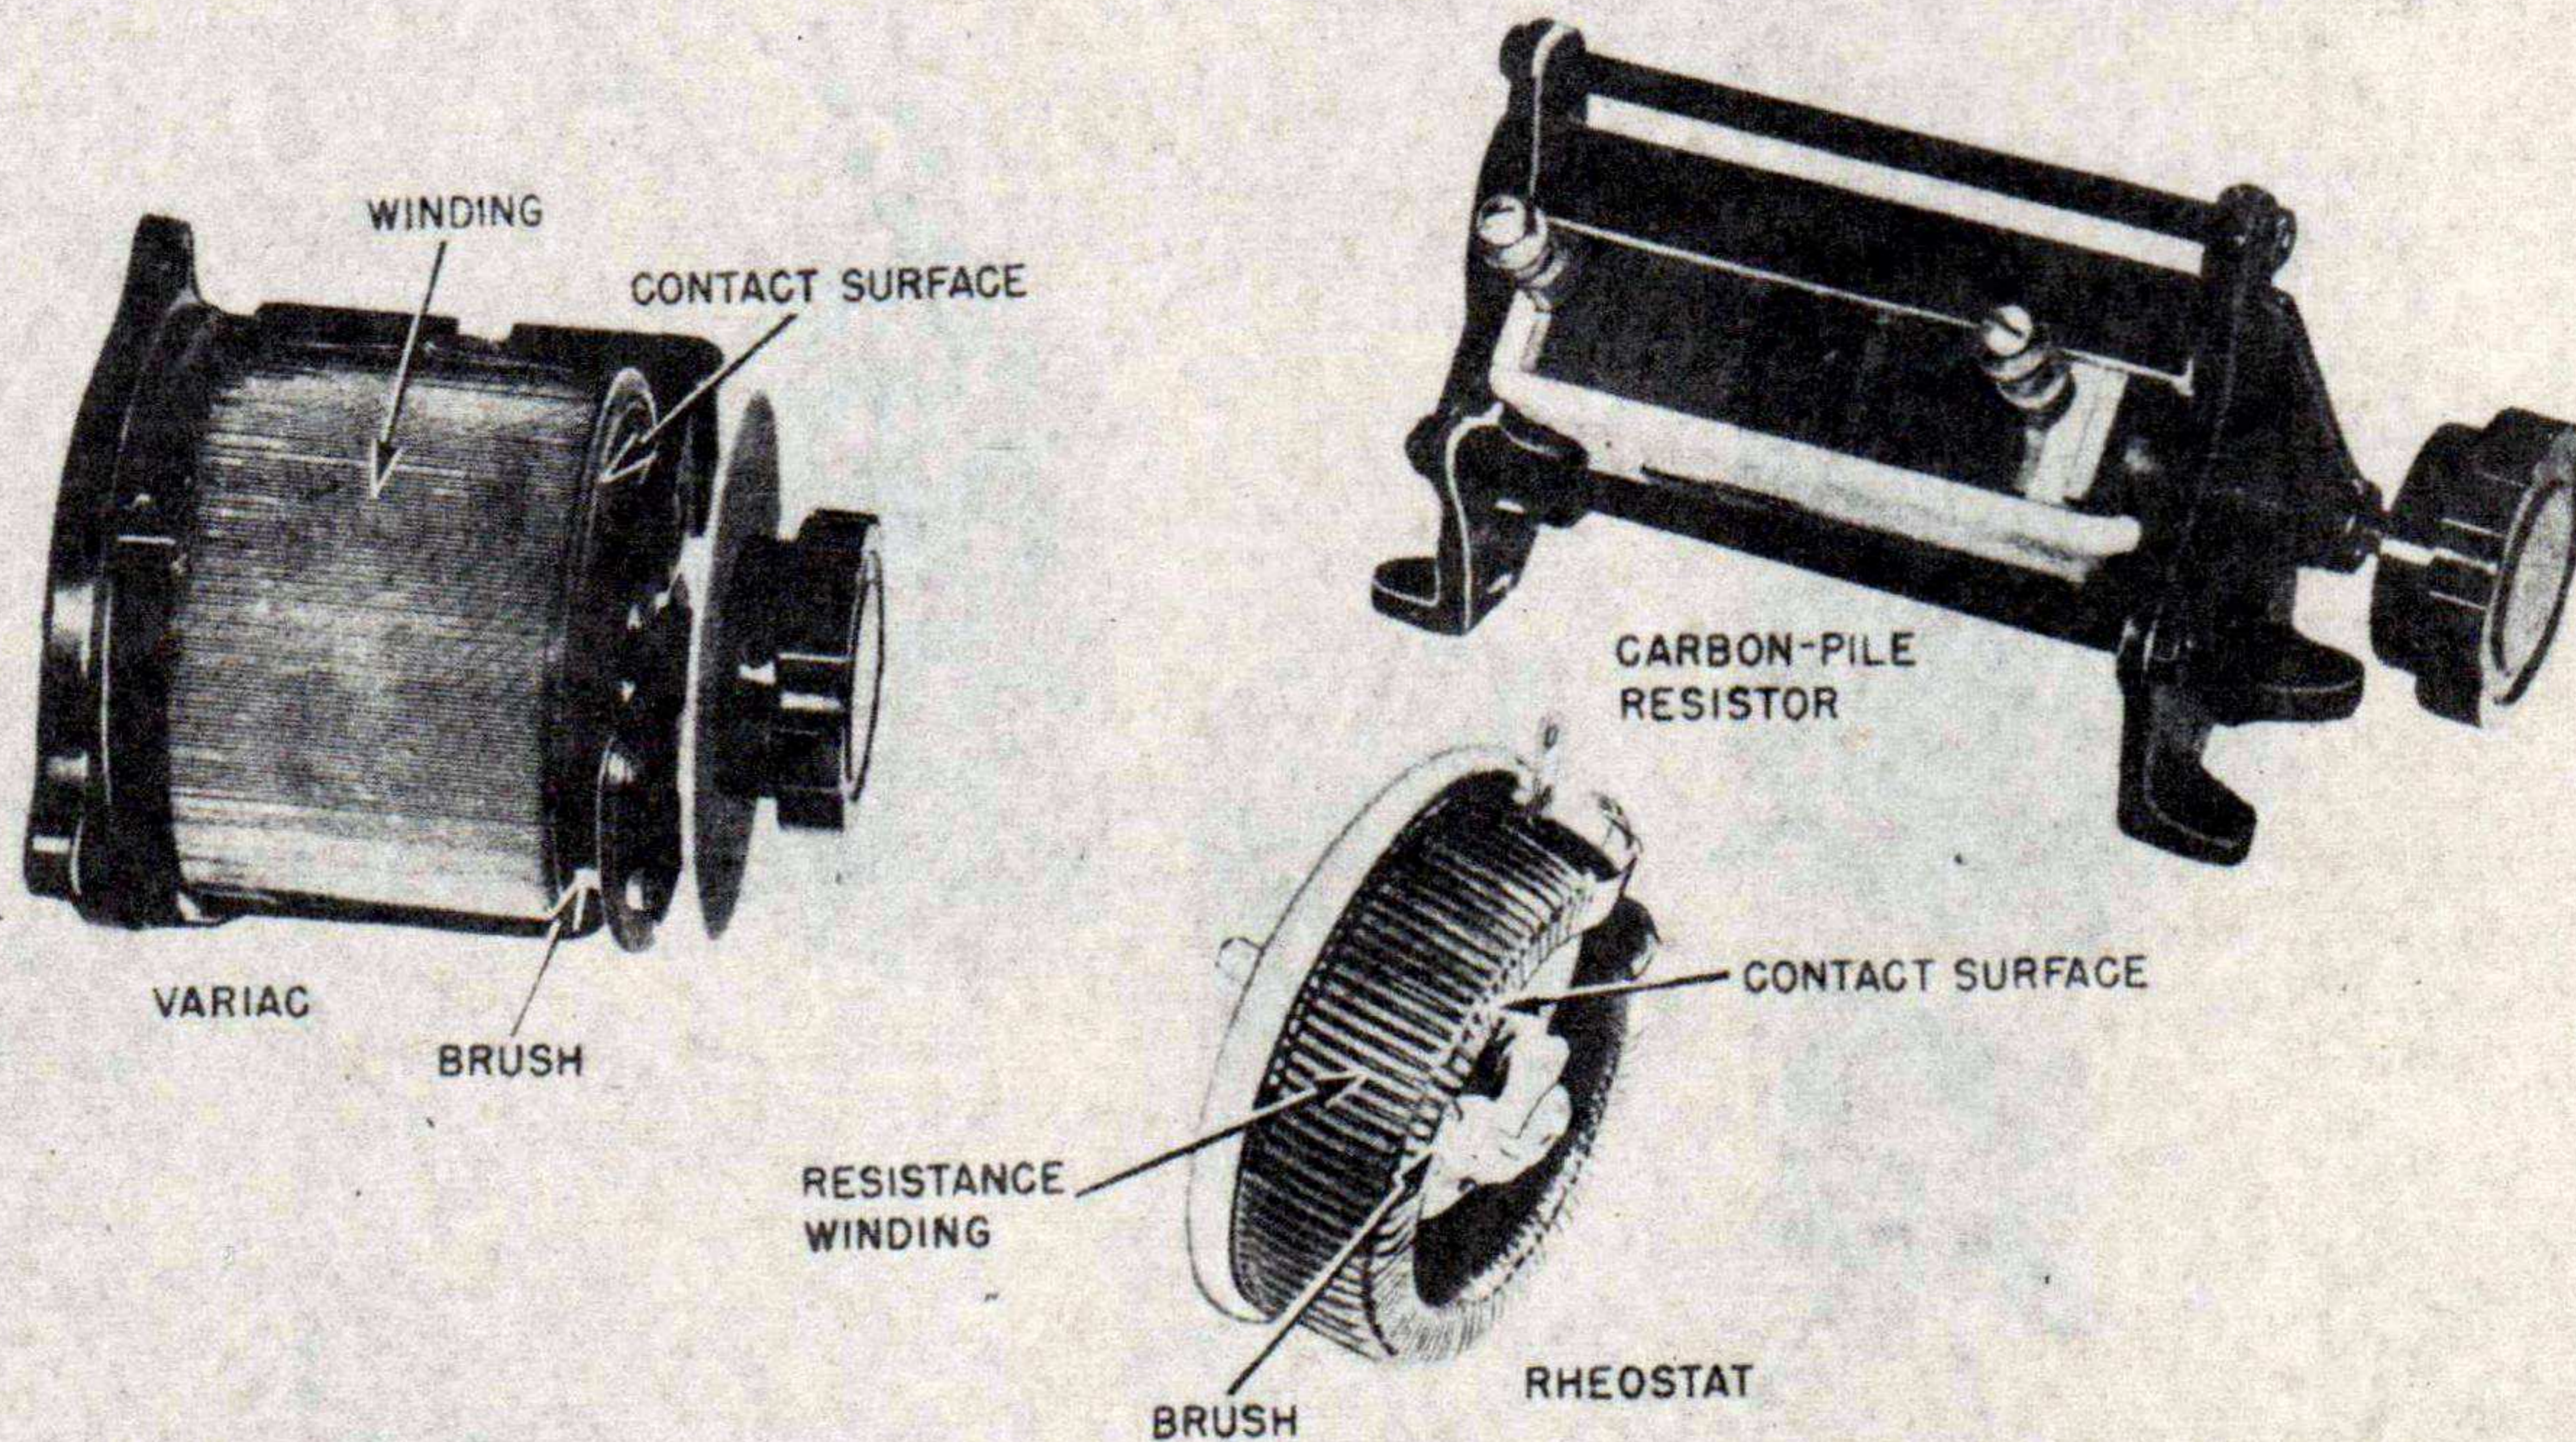

Figure 22. Typical rheostat, variac, and carbon-pile resistor.
38. POTENTIOMETERS AND RHEOSTATS (fig. 22).
a. Inspect (I). Examine moving parts for wear and resistance element for signs of overheating. Check the tension of potentiometer and rheostat wiping arms. They should make good contact without being tight enough to damage the resistor element. Inspect all metallic parts, mountings, and connections for dirt, corrosion, and looseness. Inspect shafts or other mechanisms associated with the potentiometer or rheostat for smooth action, dirt, corrosion, looseness, and need of lubrication.
b. Tighten (T). Tighten all loose mountings, fastenings, and connections. Tighten loose control knobs.
c. Clean (C). Clean potentiometers and rheostats with a clean, dry cloth (or a cloth moistened with dry-cleaning solvent (SD) where dirt is hard to remove). Remove corrosion from contact surfaces with crocus cloth. Remove corrosion from mountings and connections with #0000 sandpaper and then tighten.
d. Lubricate (L). Lubricate shafts (mechanisms associated with the potentiometer or rheostat) with Oil, Lubricating, Preservative, Special (PS) U. S. Army spec No. 2-120. Use oil sparingly. Lubricate sliding contact surfaces with Petrolatum (PET), U. S. Army spec No. 2-67A.
a. Inspect (I). Inspect the housing, mountings, and connections for dirt, corrosion, and looseness. Determine that the mechanism is in proper operating condition by manually putting it through its cycle of operation two or three times. Simulate the operation of relays by moving the armature or solenoid plunger as it would be moved if the coil were energized. Examine coils for signs of overheating. Inspect metal parts of the mechanism for dirt, corrosion, looseness, and excessive wear. Inspect contacts for excessive wear, pitting, and improper alignment and spacing. Check to ascertain that good contact is made when the contacts are in the closed position.
(2) Clean sliding copper contact surfaces in the same manner as the remainder of the unit. Remove corrosion, burning, and pitting with crocus cloth or #0000 sandpaper.
(3) Clean hard-alloy contacts while holding them together by drawing a strip of clean paper or cloth between them. Moisten with dry-cleaning solvent (SD) if dirt is difficult to remove. Polish with dry paper. Remove corrosion and pitting from hard-alloy contacts with a folded strip of crocus cloth or #0000 sandpaper in the same manner. Large contacts that are badly burned or pitted may be dressed with a fine-cut file or #0000 sandpaper. Maintain the original contour of the contact surface.
(4) Clean silver or silver-plated contacts with a cloth or brush moistened with dry-cleaning solvent (SD). Polish with a dry cloth. The brown discoloration found on silver and silver-plated contacts is a good conductor. Leave it alone unless the contacts must be cleaned for some other reason. Clean corroded and pitted silver contacts with crocus cloth. Polish with a clean cloth. Silver-plated contacts that have become corroded or pitted should be replaced if possible. Avoid using a coarse abrasive or file on silver or silver-plated contacts.
d. Adjust (A). Adjust contact spacing and spring tensions *if necessary*.
e. Lubricate (L). Lubricate shafts and moving parts of mechanisms with special preservative lubricating oil (PS). Lubricate sliding contact surfaces with petrolatum (PET). Use lubricant sparingly.
40. VARIACS (fig. 22).
a. Inspect (I). Inspect for loose, dirty, or corroded mountings, fastenings, and connections. Examine variacs for dirty or corroded contact surfaces and windings, and for excessive wear of mechanical parts and brushes. Replace badly worn brushes. Inspect windings for signs of overheating.
b. Tighten (T). Tighten all loose mountings, fastenings, and connections. Increase tension of brush springs if necessary.
c. Clean (C). Clean variacs with a clean, dry cloth or a cloth moistened with dry-cleaning solvent (SD) if dirt is difficult to remove. Remove corrosion from contact surfaces with crocus cloth or #0000 sandpaper. If the winding surface on which the brush bears becomes loaded with carbon particles, dismount the variac, remove the cover,